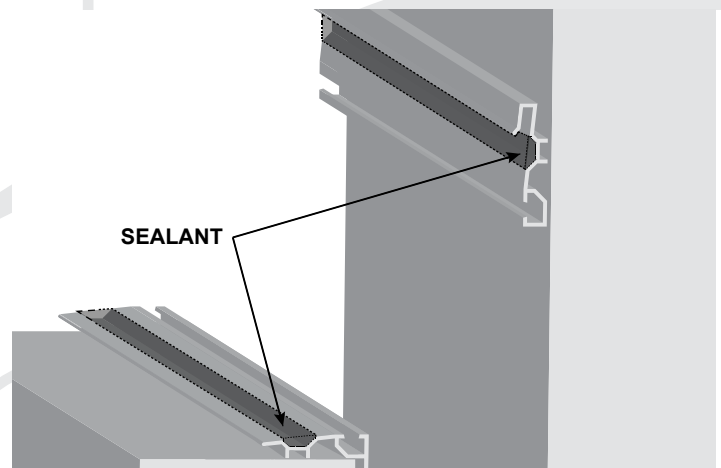

Figure 4—RWg Face Seal Sealant Placement
3. Add a continuous bead of sealant into the recess in the roof base members (Figure 4).
6. Insert the arrows of the seal into the corresponding base member retainer tracks (see Figure 4).